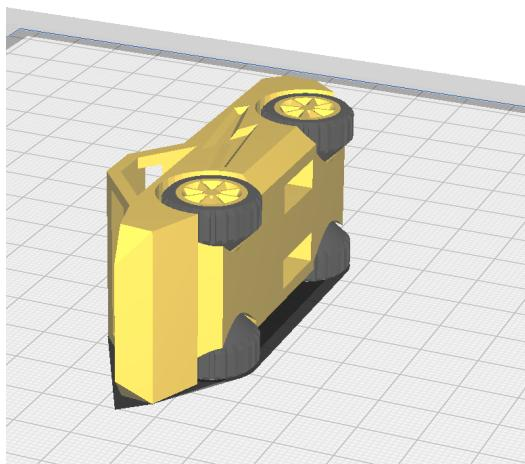

Fig. 14
Step 3. Rotate to side, Fig. 14.